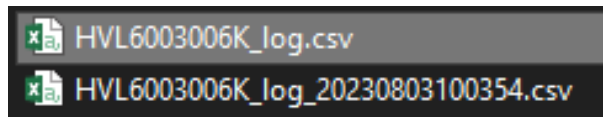

Figure 8.2 T. Stamp
- **Figure 8.2** shows both file names with T.Stamp Filename enabled and disabled.